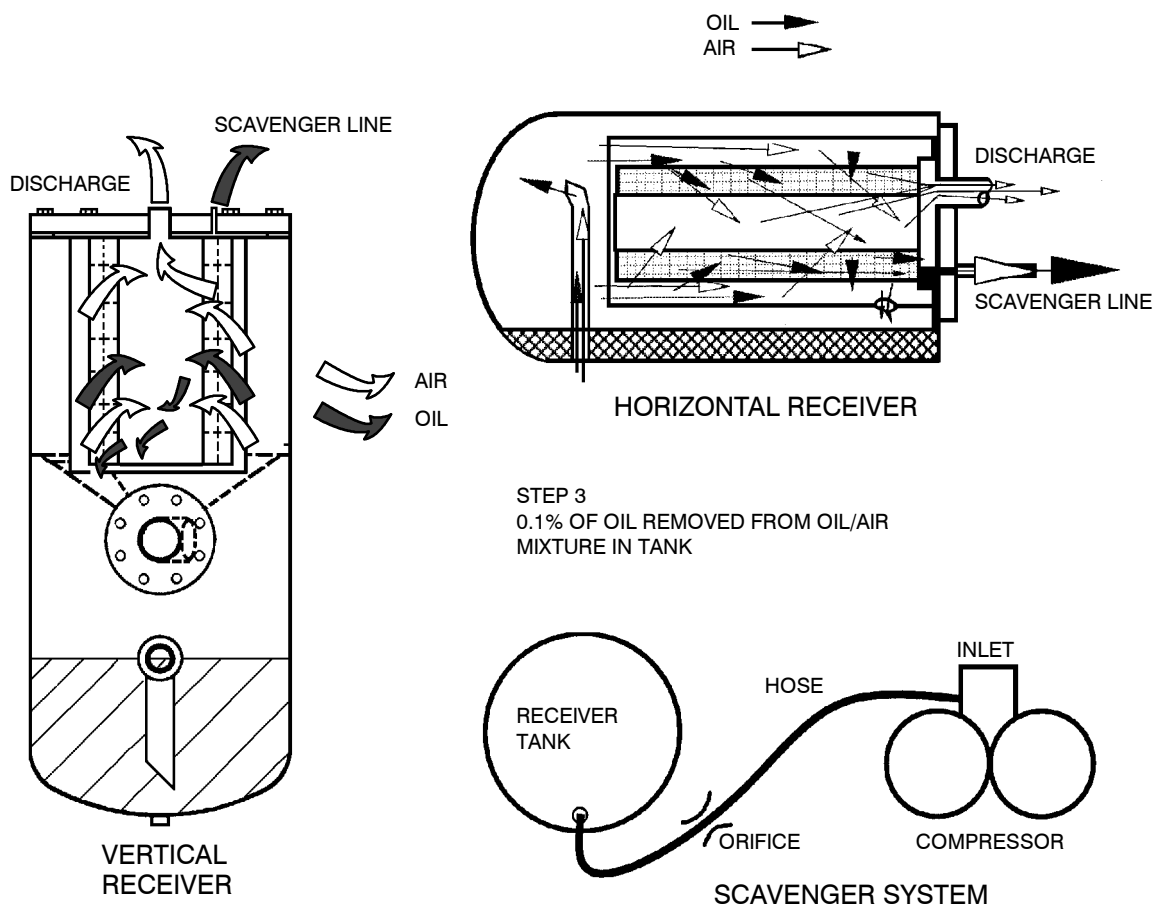

Figure 7.4–12
- The final step in the separation process is removing any remaining oil from the element so it is not carried over into the down hole air stream (see Figure 7.4–12). When enough excess oil is carried into the center of the element, a series of holes in the end of the filter element allows oil to fill an area between the flange and the element. The scavenger line is connected between the flange and the inlet of the compressor. Since there is a differential pressure between the receiver tank and the low pressure area of the compressor, oil and air are forced through the scavenger line into the inlet area of the air end, thus removing the last of the oil carryover. A 0.94" orifice in the line prevents excessive amounts of air loss.